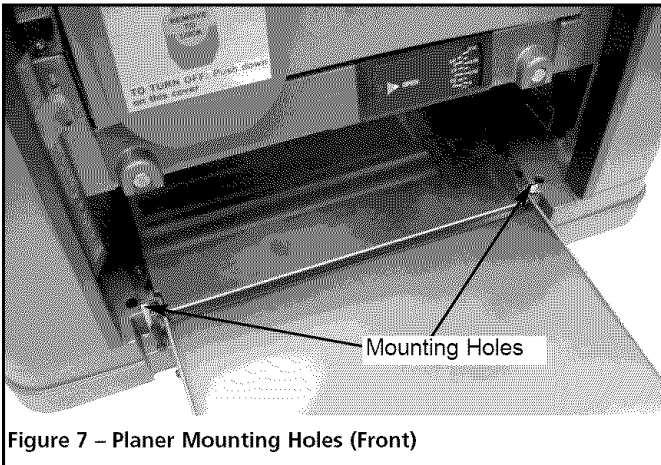

Figure 7 – Planer Mounting Holes (Front)
Refer to Figure 7.
- The base of the planer has four mounting holes, two in front (shown in Figure 7) and two in the rear.